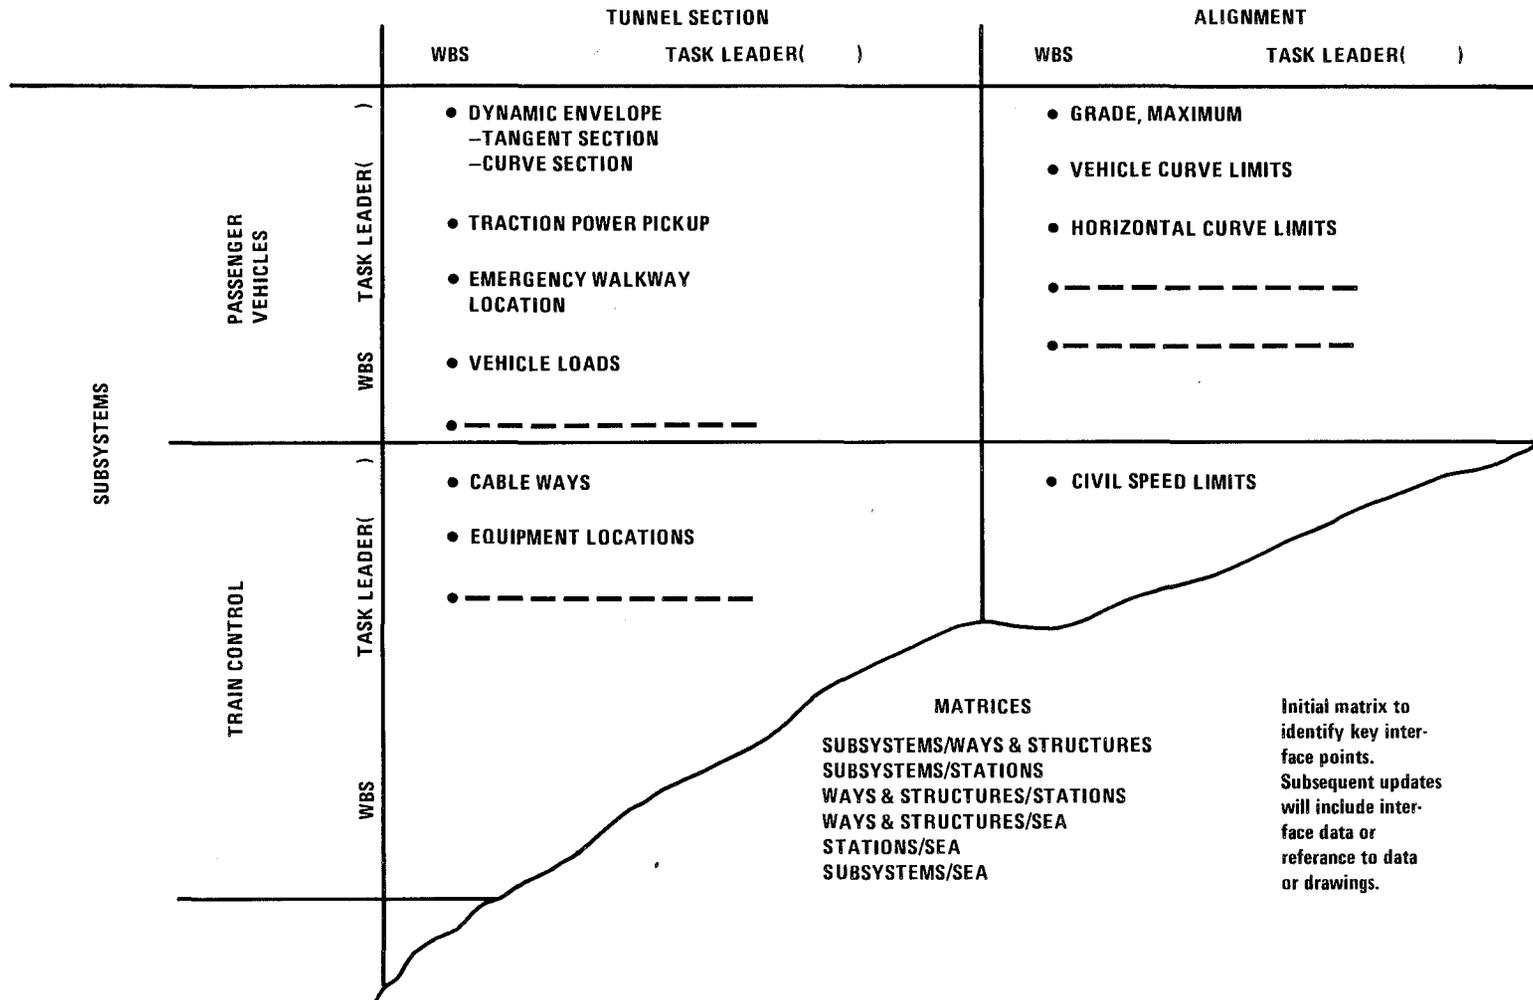

FIGURE 2-2
Purpose: This procedure is intended to identify potential design activity interfaces among design and Systems Engineering and Analysis (SEA) personnel and with sources outside the project that are required for the design effort. The tool for identifying interface requirements is the interface matrix shown in Figure 2-2. The matrix will present the information needs of each group, and the people who should be contacted for the information. The matrices will cover each WBS task and major subtasks.
- . The SEA Manager will obtain copies of the design groups' work flow diagrams and list the documents required and information needs of each document (reference Figure 2-2, and for a list of proposed project documents during Preliminary Engineering see Appendix C).